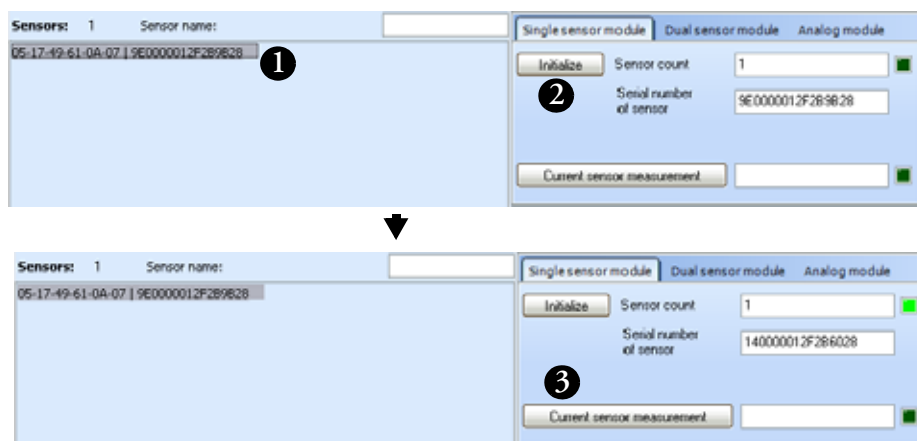

Figure 34. Replace sensor on an end-point module and then click on Initialize
4. In the wireless sensor list on the left-hand, select the sensor for which you have physically changed the sensor (#1 in Figure 34).